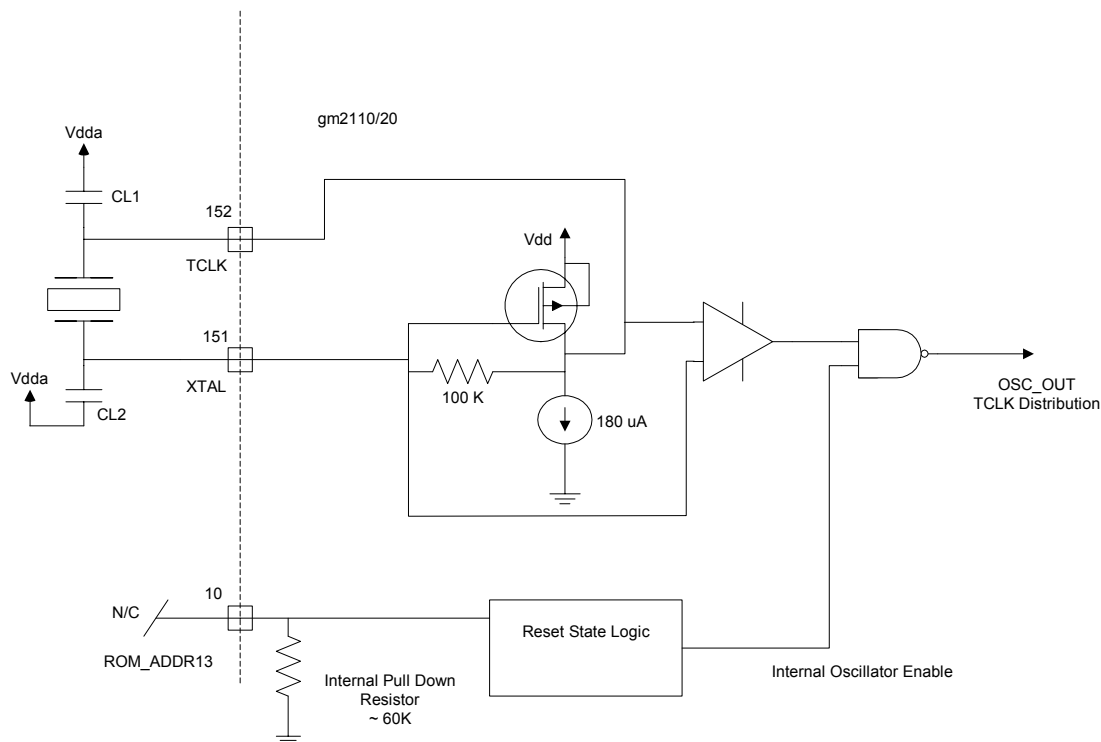
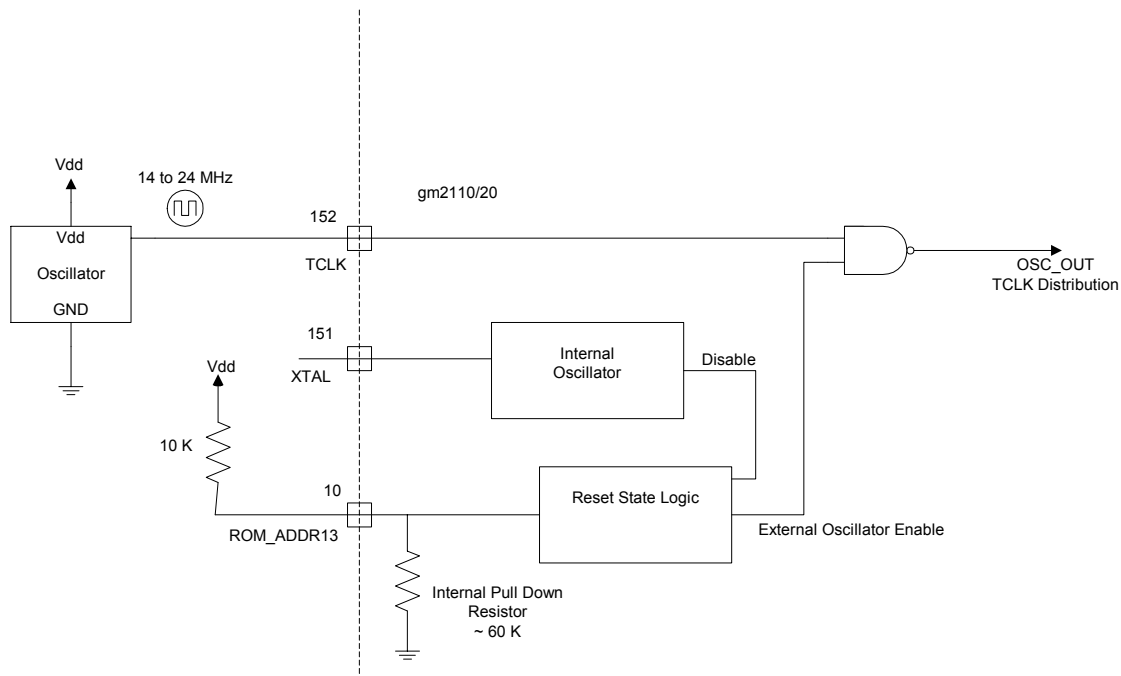

Figure 4. Using the Internal Oscillator with External Crystal
Figure 7. Using an External Single-ended Clock Oscillator
1. Crystal Input Clock (TCLK and XTAL). This is the input pair to an internal crystal oscillator and corresponding logic. A 14.3 MHz TV crystal is recommended. Other crystal frequencies may be used, but require custom programming. This is illustrated in Figure 4 below. Alternatively, a single-ended TTL/CMOS clock oscillator can be driven into the TCLK pin (leave XTAL as N/C in this case). This is illustrated in Figure 7 below. This option is selected by connecting a 10K Ω pull-up to ROM_ADDR13 (refer to Table 16). See also Table 13.
Another option for providing the reference clock is to use a single-ended external clock oscillator. When the gm2110/20 is in reset, the state of the ROM_ADDR13 (pin 10) is sampled. If ROM_ADDR13 is pulled high by connecting to VDD through a pull-up resistor (15K Ω recommended, 15K Ω maximum) then external oscillator mode is enabled. In this mode the internal oscillator circuit is disabled and the external oscillator signal that is connected to the TCLK pin (pin number 152) is routed to an internal clock buffer. This is illustrated in Figure 7.